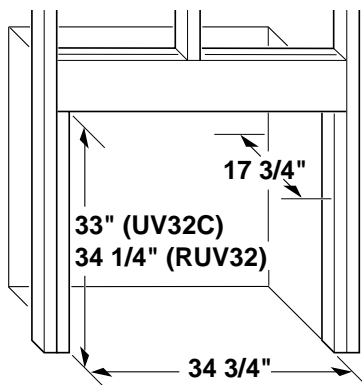
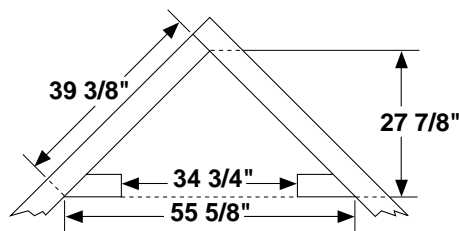

Figure 13 - Rough Opening for Installing in Wall
Figure 14 - Rough Opening for Installing in Corner
1. Frame in rough opening. Use dimensions shown in Figure 13 for the rough opening
If installing in a corner, use dimensions shown in Figure 14 for the rough opening. The height is 33" (UV32C) or 34 1/4" (RUV32), which is the same as the wall opening in Figure 13.